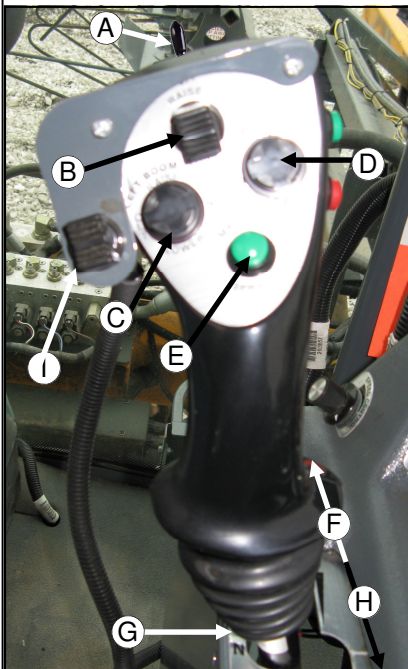

FIG. 27-2
**FOAMER SWITCH-** The foamer switch on the top of the hydrostatic lever (fig. 27.2, item A) controls the foam option on either side of the machine. See OPERATING SYSTEM section E for more information on the foamer. This switch does not operate anything in the detasseling mode.
**MAIN CONTROL SWITCH-** The main control (fig. 27-2, item E) in the lower middle of the hydrostatic lever is so the operator can turn all selected spray valves or detasseling heads on/off at one time. See OPERATING SYSTEMS section E and F for more information.
**FORWARD CONTROL-** The hydrostatic lever is responsible for the direction of motion of the machine. To move forward, slowly move the hydrostatic lever forward. (fig. 27-2, item F)
**REVERSE CONTROL-** To move the machine in reverse, slowly move the hydrostatic lever backward. (fig. 27-2, item H) Be sure that the machine is clear of all dangers before putting it in reverse.
**NEUTRAL POSITION-** The neutral position is also the stop or brake position. (fig. 27-2, item G) The neutral position must be met before changing direction of the machine. There are several functions that can not be performed if the machine is not in the neutral position.
**LIFT, LEVEL, HORIZONTAL FOLD-** (fig. 27-2, items B, C, and D) are all a part of the hydraulic system. A complete explanation of their functions can be found in section C of the OPERATING SYSTEMS.
**ALL UP/HOLD-** The all up/hold switch (fig. 27-2, item I) is used to control all of the lifts on the detasseling/combo bar. Instructions for programming the switch are found in Tasselrol® section of SYSTEM PROGRAMMING.